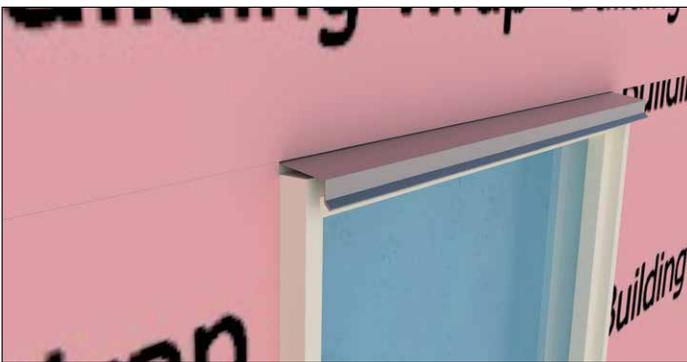

Figure 1
1. Ensure flashing & air/water barrier are completed to meet local building code (Figure 1).